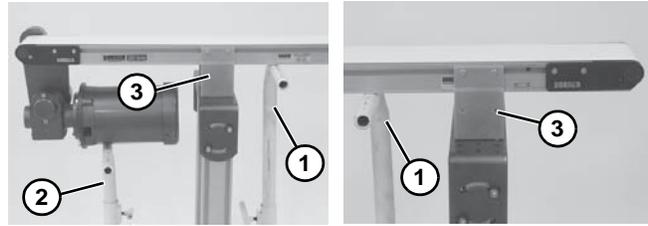
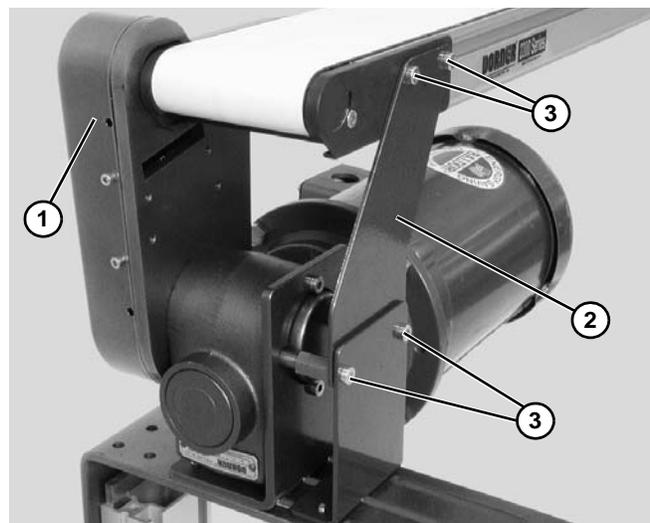

Figure 41
Figure 42
1. Place temporary support stands (Figure 41, item 1) at both ends of the conveyor. Place an additional support stand (Figure 41, item 2) under the drive motor, if equipped. See WARNING.
2. Remove mounting brackets (Figure 41, item 3) from one side of conveyor. (Reverse steps 3 & 4 of “Mounting Brackets” section beginning on page 21.) If equipped with heavy load drive package, remove brackets from side opposite drive cover (Figure 42, item 1).
3. If equipped, remove return rollers and guiding and accessories from side opposite drive cover (Figure 42, item 1).
4. If equipped with heavy load drive package, remove drive support bracket (Figure 42, item 2): Remove bracket screws (Figure 42, item 3) then remove bracket (Figure 42, item 2).